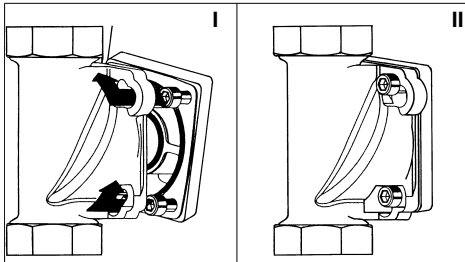

Fig. 4: Built-in rotary flange with Bayonet Fixture
The built-in rotary flange must be installed in the direction of flow. This is marked by a cast in arrow (see fig. 4).
- Insert the four flange screws in the bayonet drill holes on the built-in rotary flange (see fig. 4 I).
- Turn the filter in a clockwise direction as far as it will go (see fig. 4 II).